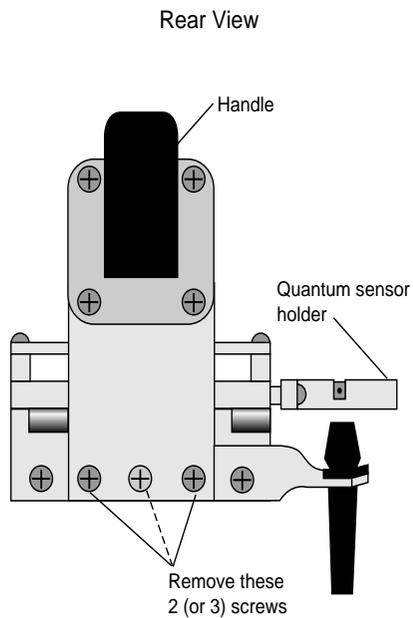

Figure 28-9. Remove the screws on the back side of the handle.
c) Remove the 2 screws (3 on some instruments) on the back side of the handle, as shown in Figure 28-9, using a #1 Phillips head screwdriver. Be careful not to lose the spacer that is between the handle mounting plate and the hinge.